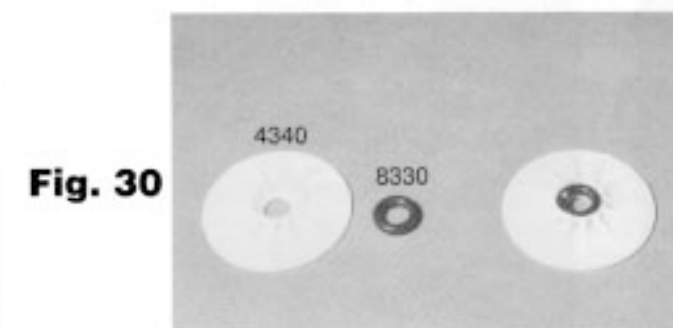

Fig. 30
□ **Figs. 30 & 31** In bag 6 you will find two #8330 black O-rings and two #4340 plastic dampner washers. Install one black O-ring in the top of each plastic dampner washer (fig. 30). In the same bag you will find two #3323 #8 aluminum thick washers, and two #4341 dampner springs. (1) Now install the two #8 aluminum washers over the upper dampner post. (2) Next install one of the dampner springs. (3) Before we install the plastic dampner washer with O-ring, coat the black O-rings with #6636 diff lube (to improve the performance of the rear pod assembly). (4) Install the dampner washer with the O-ring side facing down and the smooth side up.